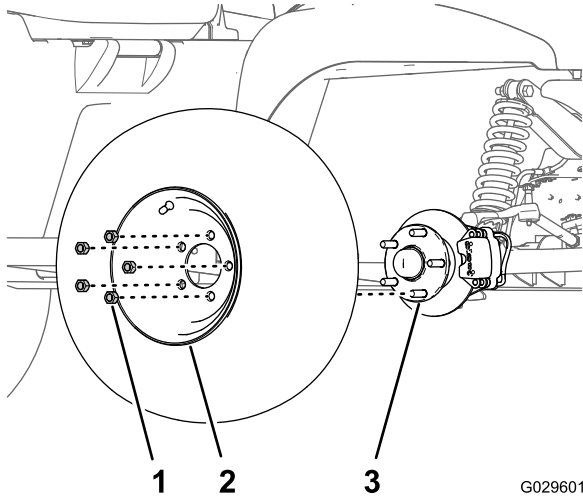

Figure 26
2. Remove the 5 lug nuts that secure the wheel to the hub (Figure 26).
4. Align the holes in the wheel to the studs of the hub and assemble the wheel to the hub with the valve stem outward (Figure 26).
5. Secure the wheel to the hub with the lug nuts (Figure 26), and torque the nuts to 108 to 122 N-m (80 to 90 ft-lb).